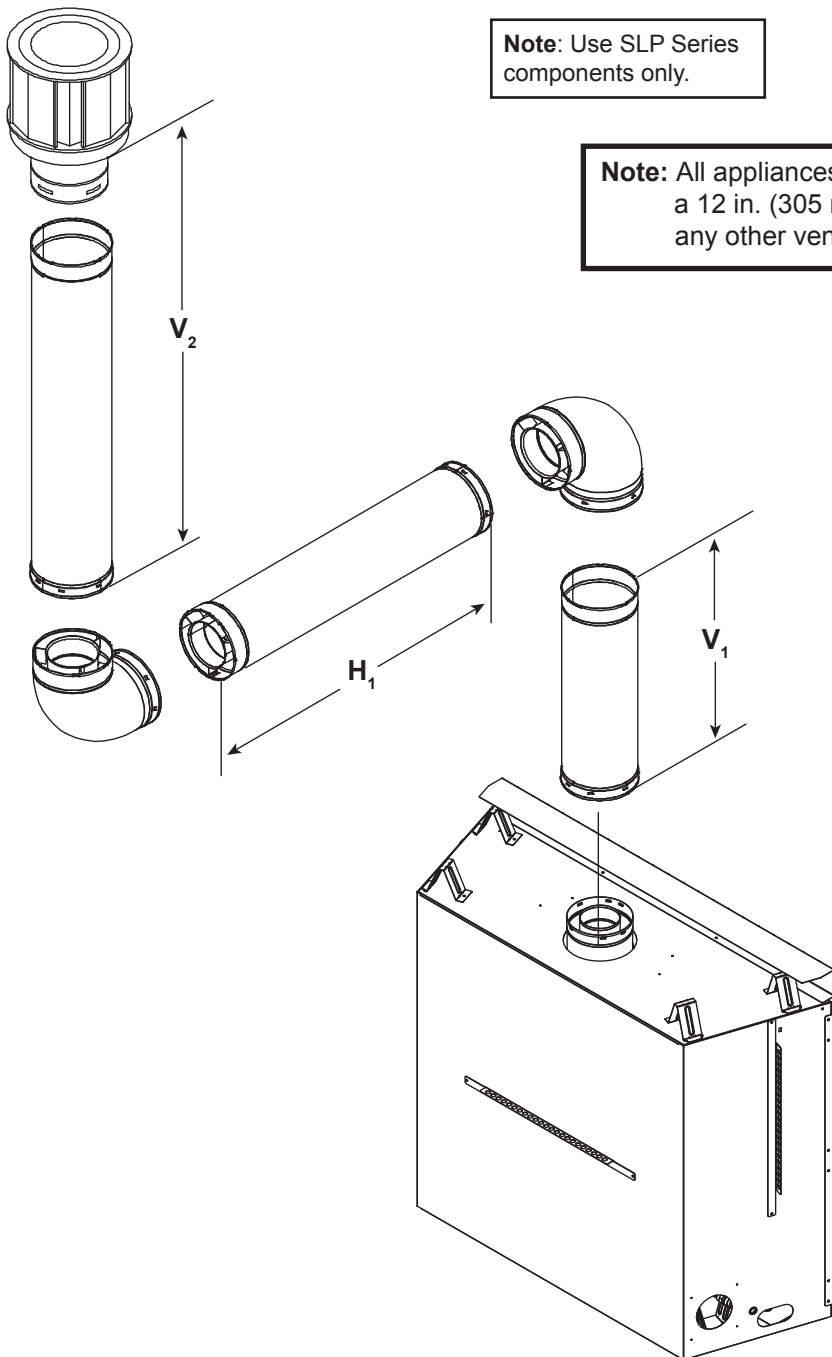

**Figure 7.7 Restrictor with Small Cut-Out**
3. Replace existing restrictor with small cut-out restrictor in manual bag for installations with more than 6-1/2 ft. (2 m) of vertical piping. See Figure 7.7.